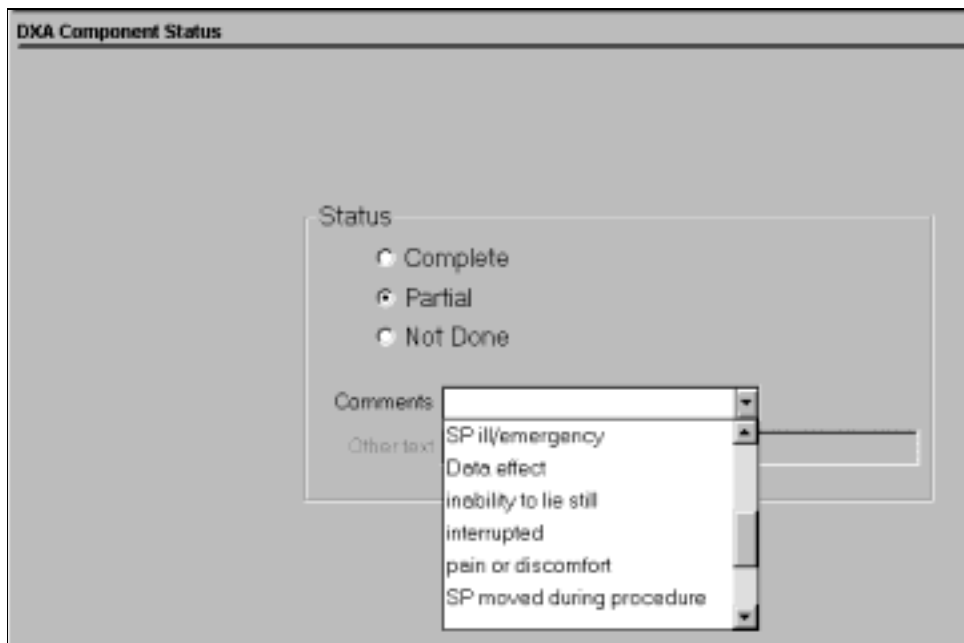

Figure 4-33. DXA component status (2)
- Other comments in the drop-down box are shown in Figure 4-33:
- The final comments listed in the box are shown in Figure 4-33: